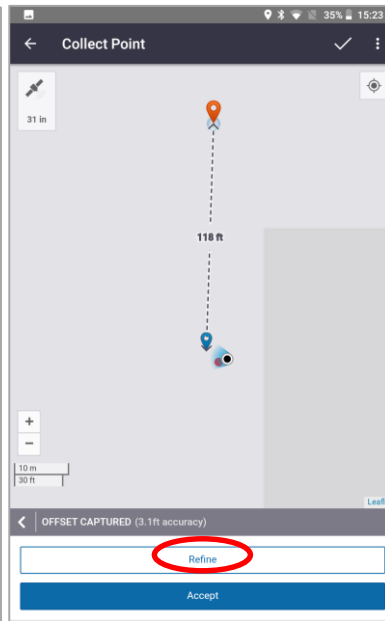

Figure 10
10. The offset position will plot, tap **Accept** or choose **Refine** for better accuracy (Figure 10)